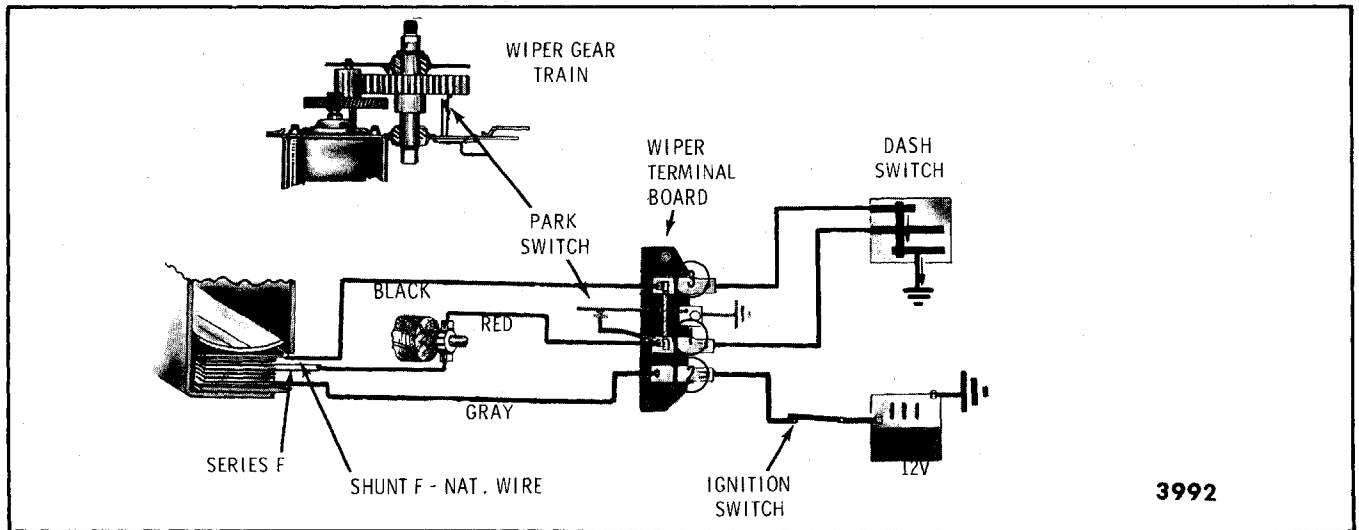

Fig. 2-25-LO Speed Circuit
ground through wiper terminal 1 to the wiper switch and (2) part passes through the shunt field to ground through wiper terminal 3 to the wiper switch (Fig. 2-25).
DIAGNOSIS CHART - WIPER ON CAR - Figures 2-25, 2-26, and 2-27